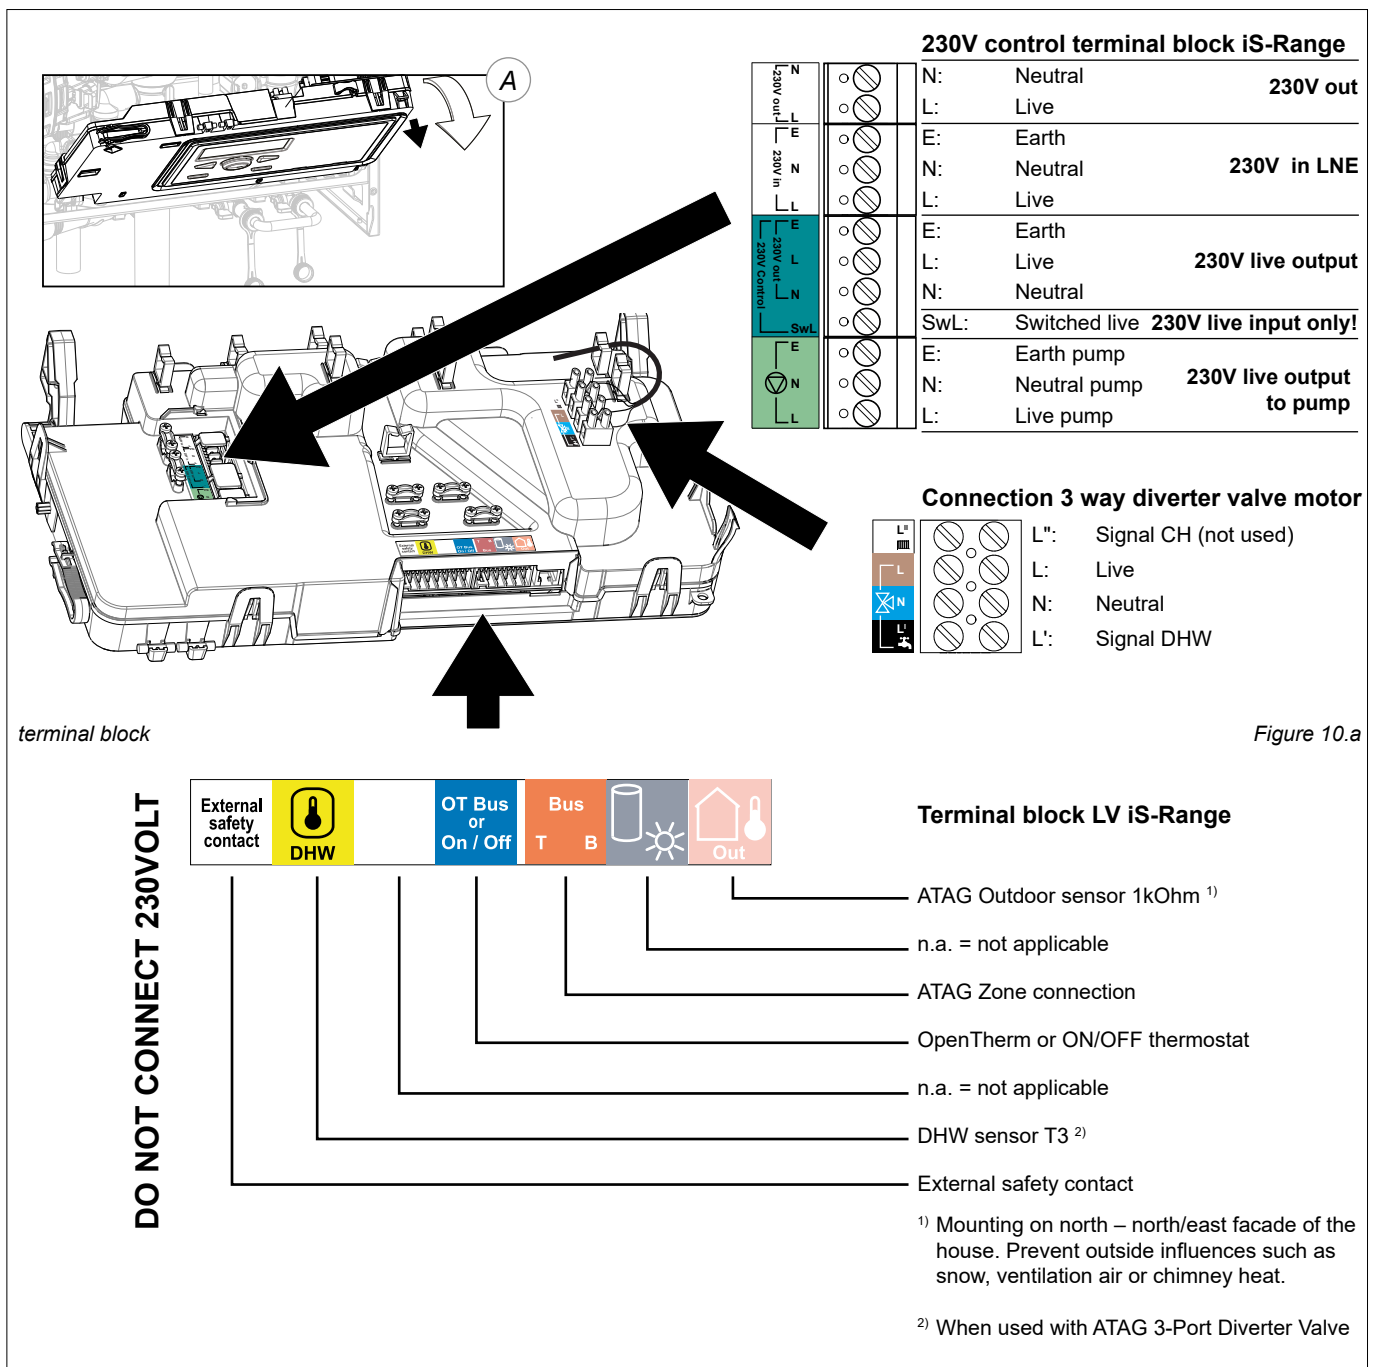

Figure 10.a
- Press handle A slightly to the left (see fig. 10.a)